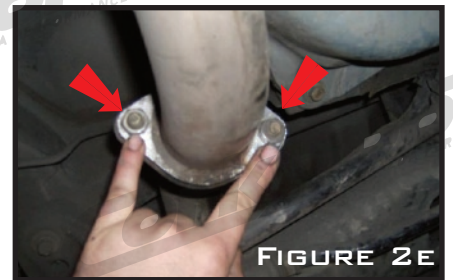

FIGURE 2E
E) APPLY PENETRATING SPRAY AND REMOVE THE TWO 14MM NUTS AND BOLTS SHOWN IN FIGURE 2E HOLDING THE TAILPIPE SECTION TO THE MIDDLE SECTION OF THE EXHAUST AND REMOVE THE MIDDLE SECTION FROM THE VEHICLE.